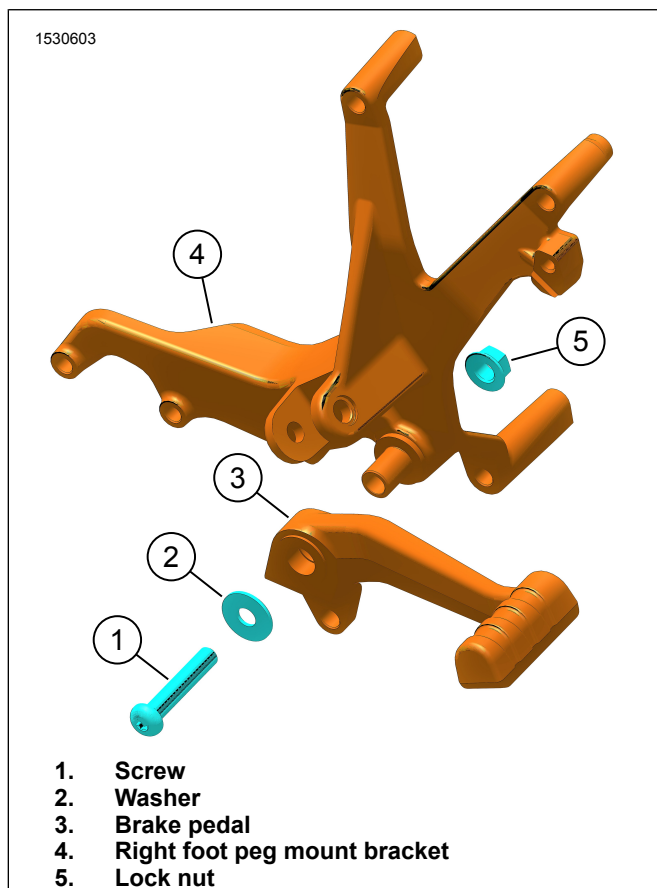

Figure 5. Brake Pedal Assembly
1. See Figure 5. Install brake pedal (3) to right foot peg mount bracket (4).
2. Install washer (2) and screw (1).
3. Install lock nut (5). Tighten.